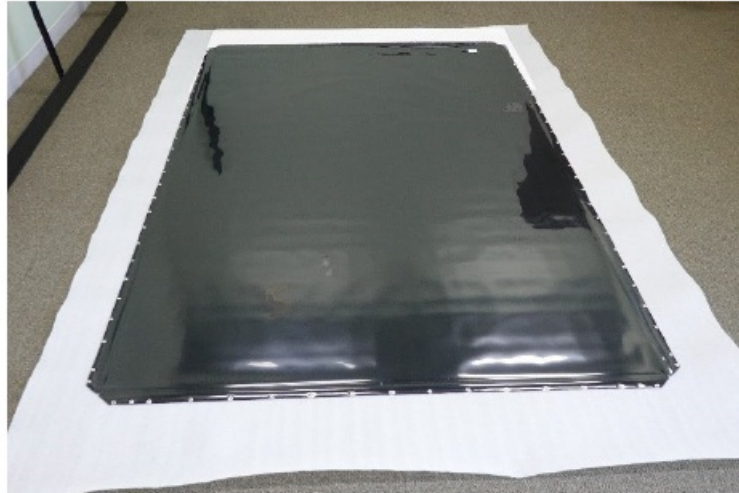

Figure 15: Roll screen out, viewing side down
1. Roll the screen out onto a drop cloth on the floor with the viewing side facing down (see Figure 15).